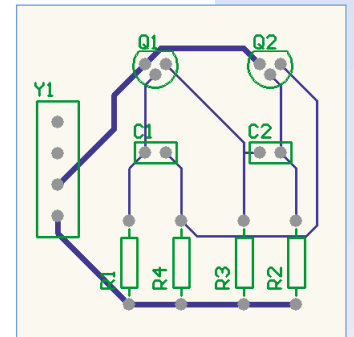

Figure 8
- You can now route the rest of the board in a similar manner to that described in the previous steps. Figure 8 shows the manually routed board.